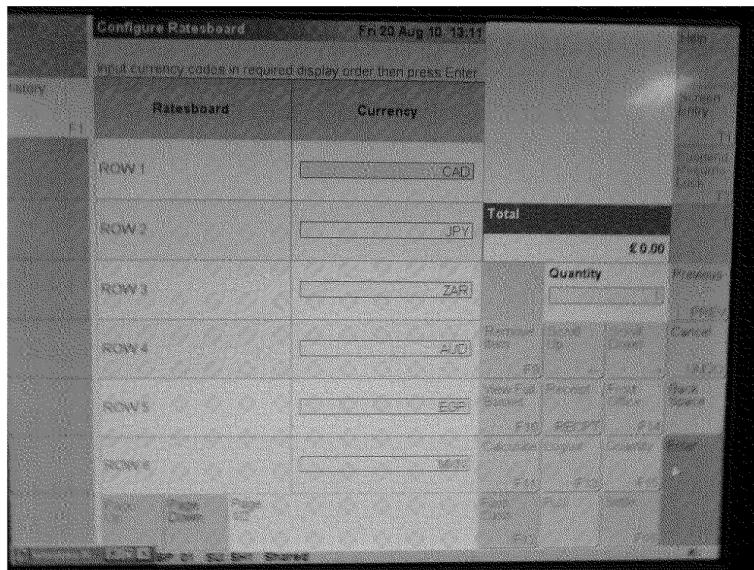

Figure 19
- 4) To connect the Rate Board to the Horizon Counter Position, take the segment 3 cable which should now be connected to the Rate Board via the segment 2 cable (see Figure 1 and connect the trailing RJ12 plug to **COM12** on the Specialix card at the rear of the base unit (as shown previously in figure 19). Ensure that this plug 'clicks' home securely. NB:- Do not try to connect the RJ12 plug to any other COM port on the Specialix Card – this will not work.
- 9) After making the appropriate selection, the currency selection screen will be displayed (See Figure 19 below).